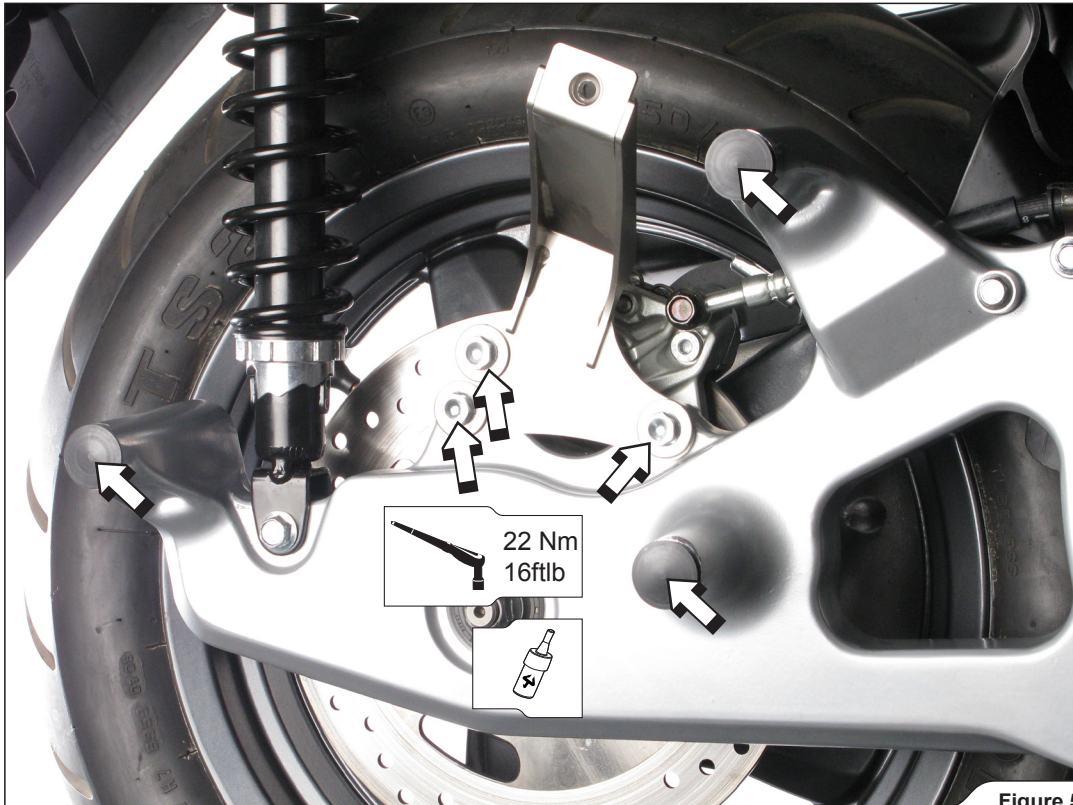

Figure 5
2. **For X-MAX125 / X-CITY125 only:** install the Akrapovič muffler bracket onto the brake caliper as shown, using Akrapovič bolts and washers. Tighten the bolts to a specified torque. Insert the Akrapovič PVC plugs into the stock muffler's mounting holes, use rubber mallet to tap the plugs into place (**Figure 5**).